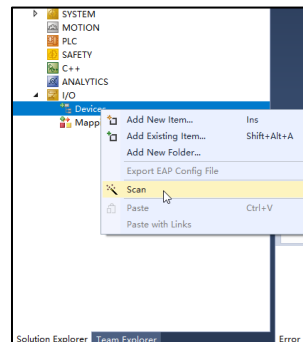

Figure 20: Scan Device
- a. In solution explorer, right-click I/O > Devices, then select scan (see Figure 20).